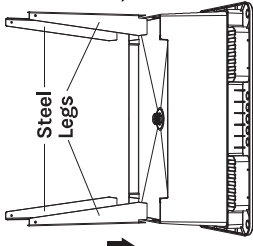

Fig. 2
- While the tub is still upside down, insert the 4 steel legs into each corner socket (see Fig. 2).